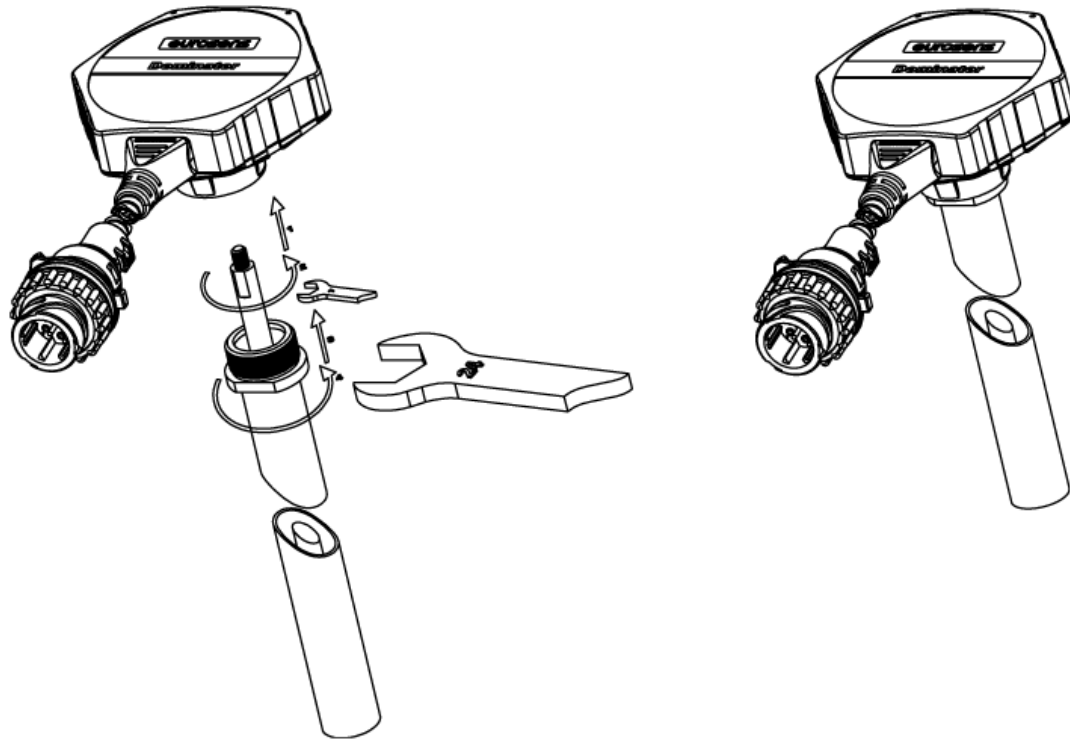

Fig. 2. Both the outer and inner electrode have a threaded connection with sensor head module
**2. The electrodes are also modular and can be easily dismantled (Fig.2).**